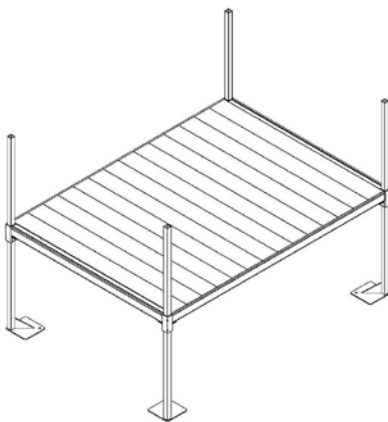

Fig. 1a (5x7 Platform)
- 1.1 Legs for the 5' x 7' platform (Fig. 1a) are installed in the same manner as the 5' x 5' and 6' x 6' platforms. Refer to the main manual titled *Titan Series Commercial Ramp System Installation Manual*.